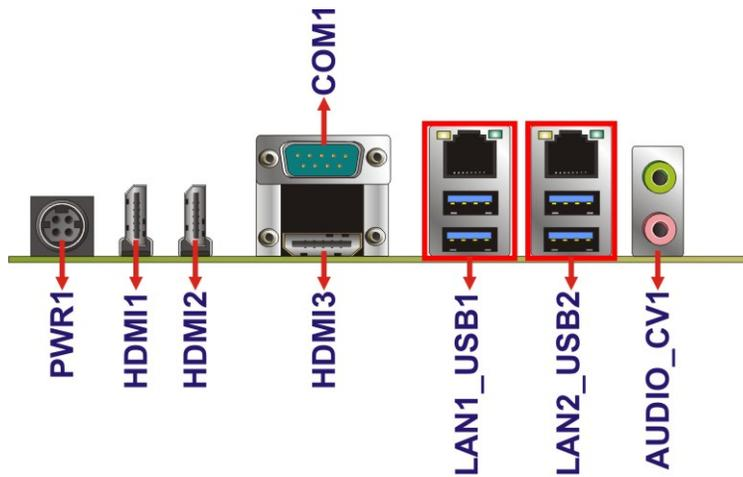

Figure 3-27: External Interface Connectors
Figure 3-27 shows the KINO-DQM170 motherboard external interface connectors. The KINO-DQM170 on-board external interface connectors are shown in **Figure 3-27**.
CN Location: See **Figure 3-27**
- CN Location:** See **Figure 3-27**